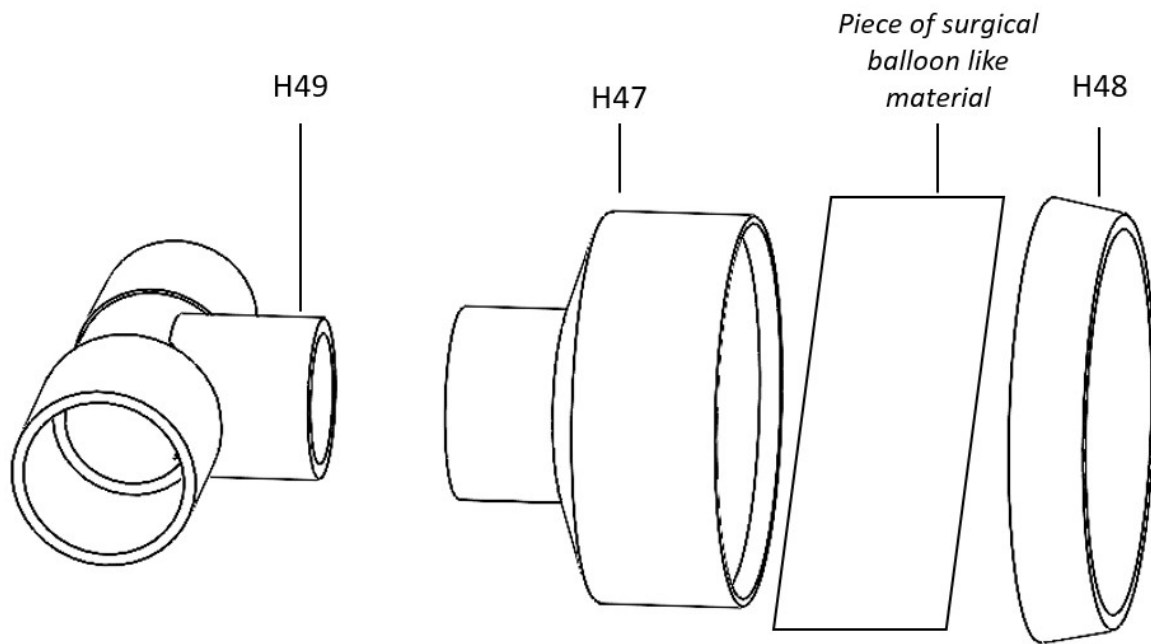

Figure 20: Assembly of Membrane Adapter
1. Put the pieces together as shown in figure 20. The balloon piece needs to cover the whole opening of the H47 MembraneAdapter.